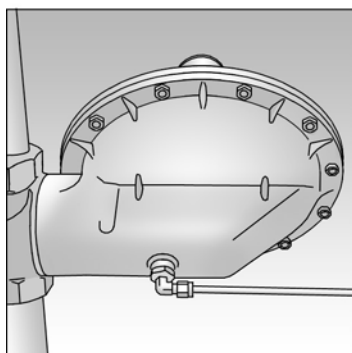

Fig. 4
2. Connect the impulse line (½"), using a jointing compound approved to national standards, and lead to a point downstream not less than fifteen times the nominal pipe diameter from the outlet. See Fig. 4.